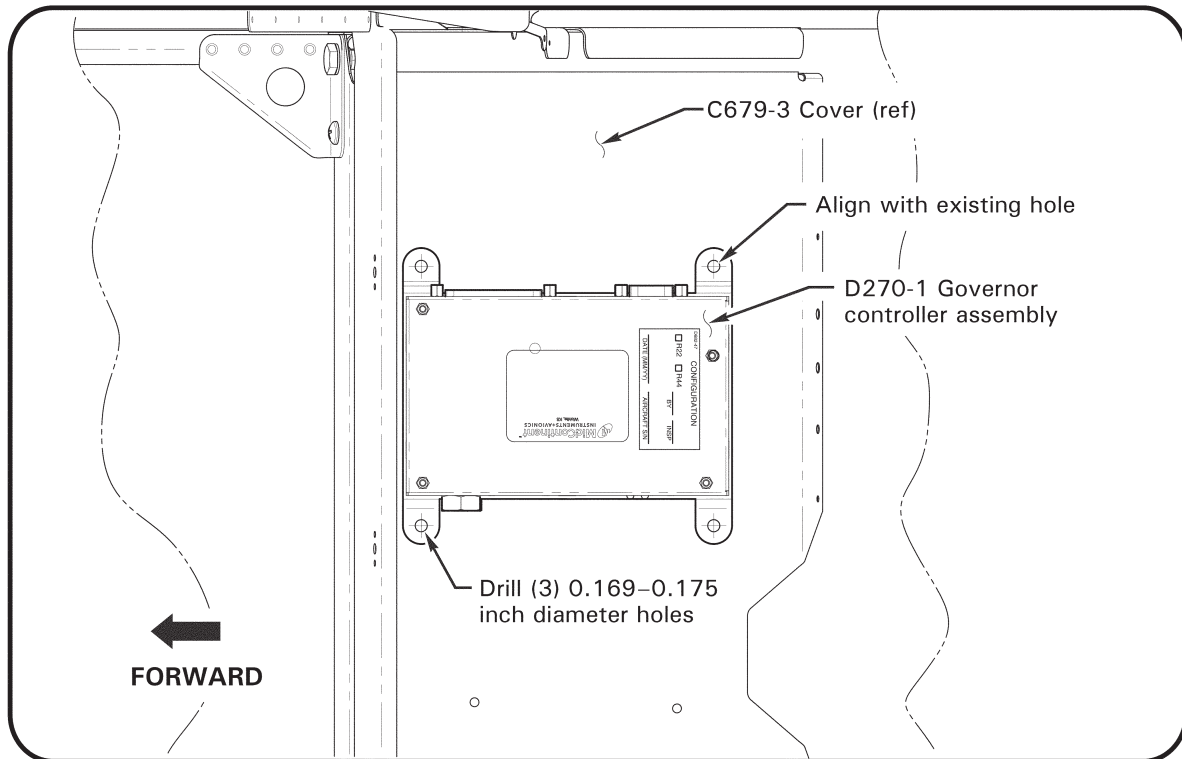
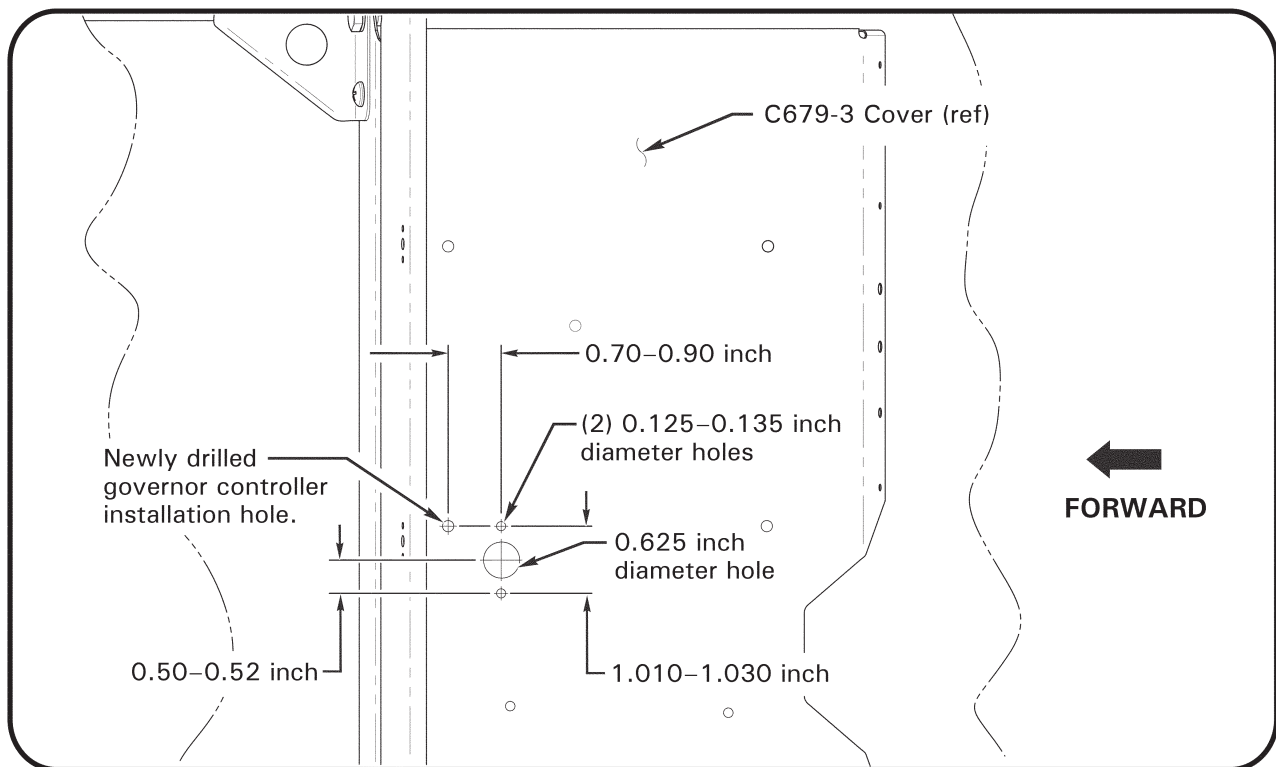

FIGURE 1 D270-1 Governor controller location
FIGURE 2 USB connector hole location
3. Refer to Figure 1. Position D270-1.CS governor controller on C679-3 cover as shown and align with existing inboard hole. Mark (3) remaining hole locations on cover. Remove governor controller.
4. Drill (3) 0.169–0.175 inch diameter holes at marked locations. Deburr holes and clean up debris.
5. Refer to Figure 2. Starting at newly drilled hole location indicated in Figure 2, layout USB connector hole dimensions as shown. Drill (1) 0.625 inch diameter hole using step drill and (2) 0.125–0.135 inch diameter holes in cover as shown. Deburr holes and clean up debris.